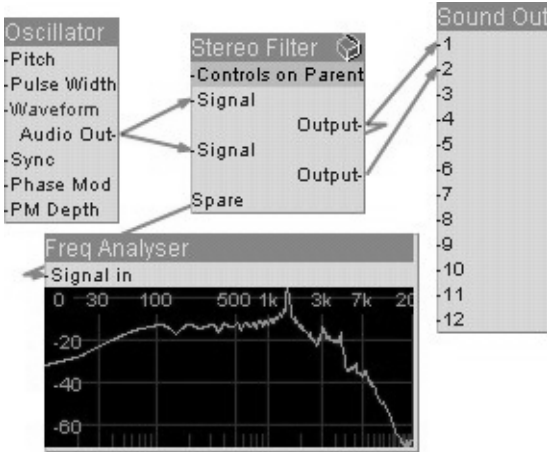

Figure 2.5: Testing the stereo filter in an SE environment
- ❖ To test your plug-in in the SynthEdit environment, plug an audio source into the input and wire the outputs to a Sound Out module or a Freq Analyser as shown in figure 2.5. Saving a plug-in as a VST/i stores only the main container's contents; the test signal and Sound Out modules are not part of the plug-in.